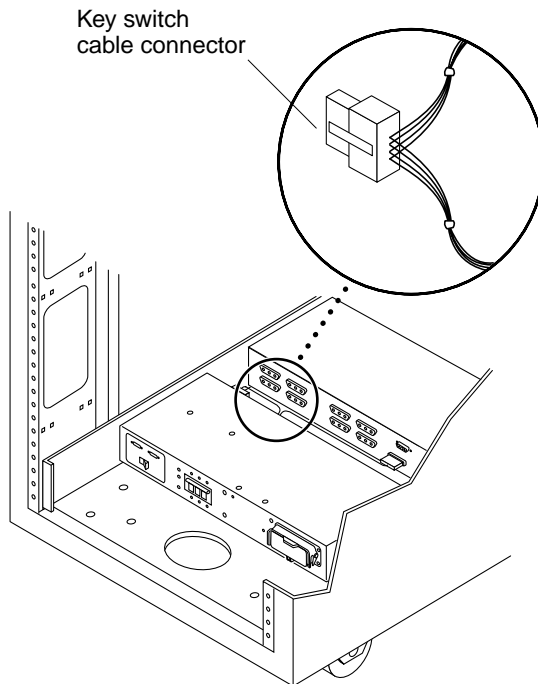

FIGURE 5-1 Key Switch Cable Connection
2. **Disconnect the key switch cable connector from the cable adapter cable connector near the rear of the power sequencers (FIGURE 5-1).**
4. Connect the key switch cable connector to the adapter-cable connector near the rear of the power sequencer (FIGURE 5-1).